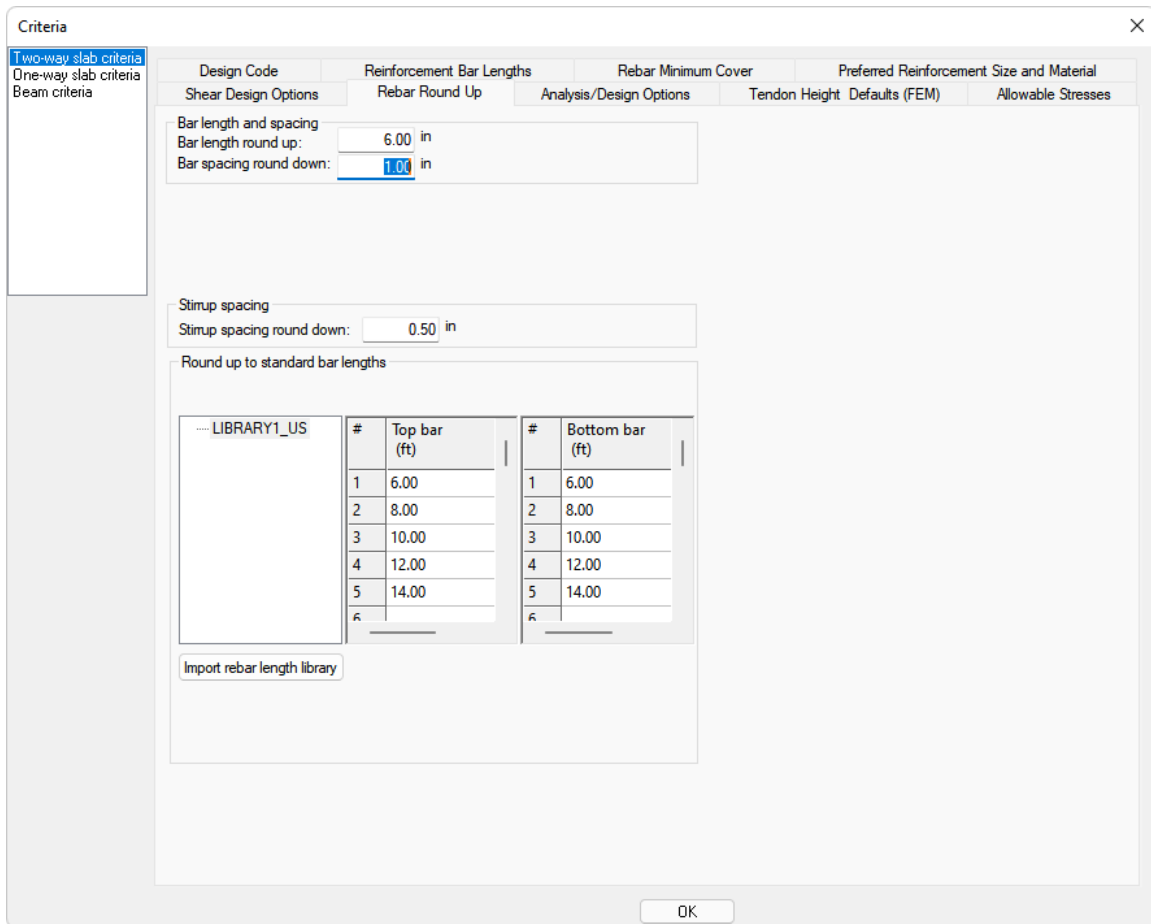

FIGURE 2-15
- Click on the **Rebar Round Up** tab. This will open the window from **FIGURE 2-15**.